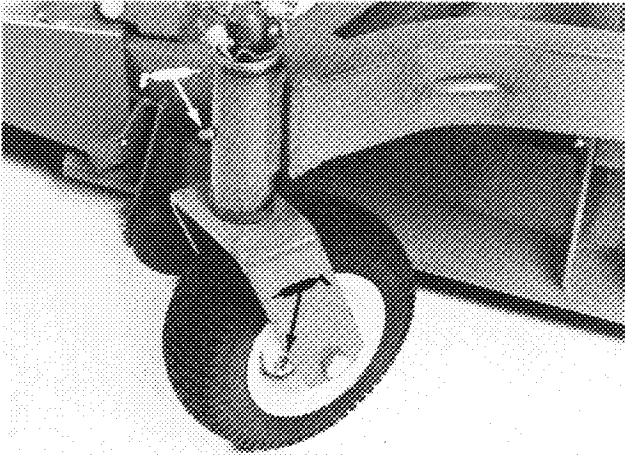
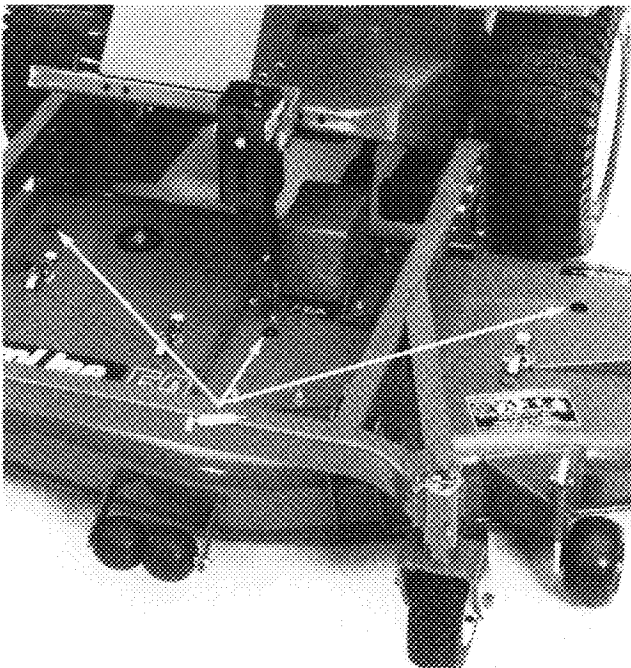

Figure 17
Figure 18
1. Grease: castor spindle bushings, castor wheel bearings (Fig. 17) and blade spindle bearings (Fig. 18).